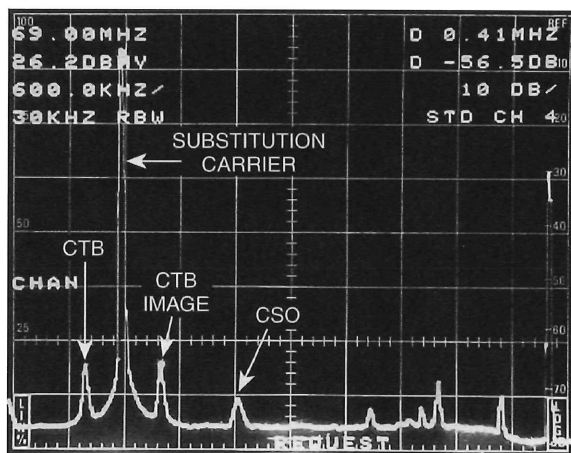

Figure 23. CTB at the output of a set-top converter.
7. Use the delta marker mode to measure the beats, if any. Figure 23 shows CTB of -56.5 dB relative to the visual carrier.